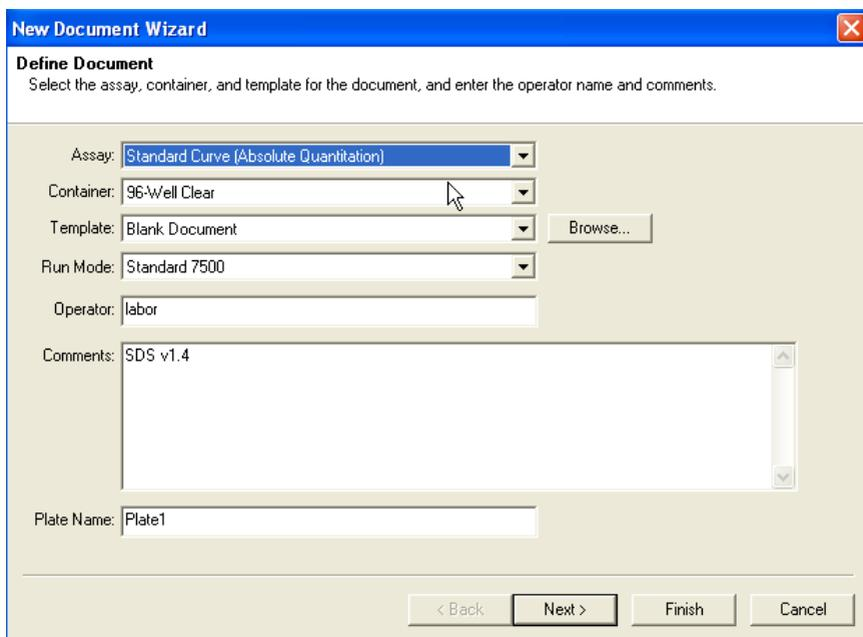

Figure 34. Creating a new document.
- 8a. If you are not using a template file, select the following settings (Figure 34, next page) and proceed with step 9: